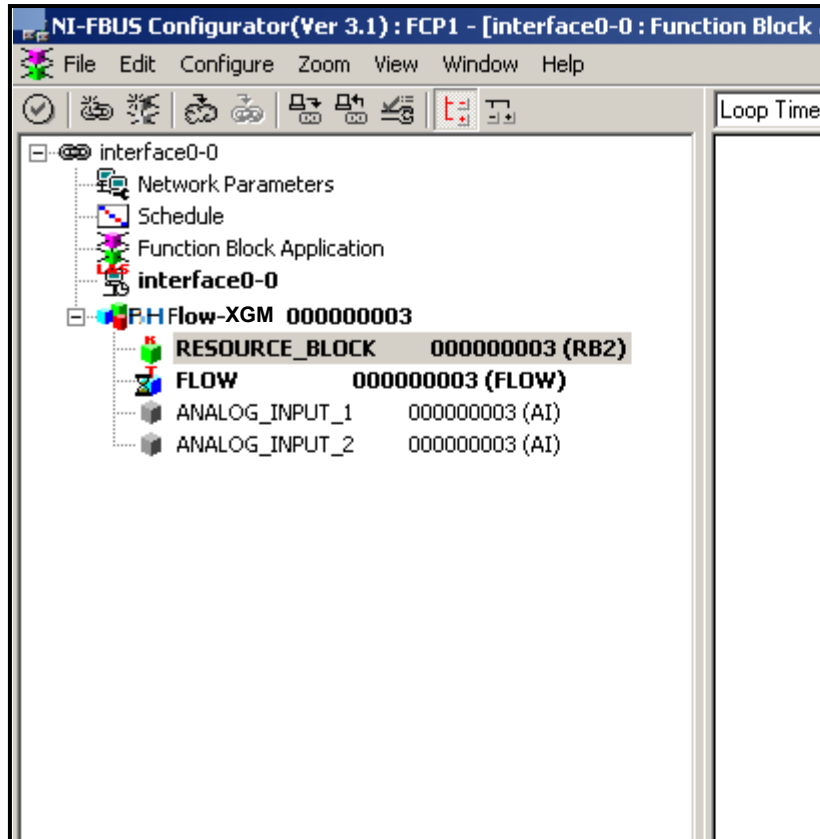

Figure 59: Configuration Utility Setup Example
Figure 59 below shows the Configuration Utility with a flowmeter on the network (Panametrics Flow-XGF).
1. Double click on the AI block for which you wish to set the units (ANALOG_INPUT_1 or ANALOG_INPUT_2 in the tree under GEFLOW-XGF; see *Figure 59 on page 114*).
1. Double click on the FLOW transducer block (in the tree under GEFlow-XGF; see *Figure 59 on page 114*).